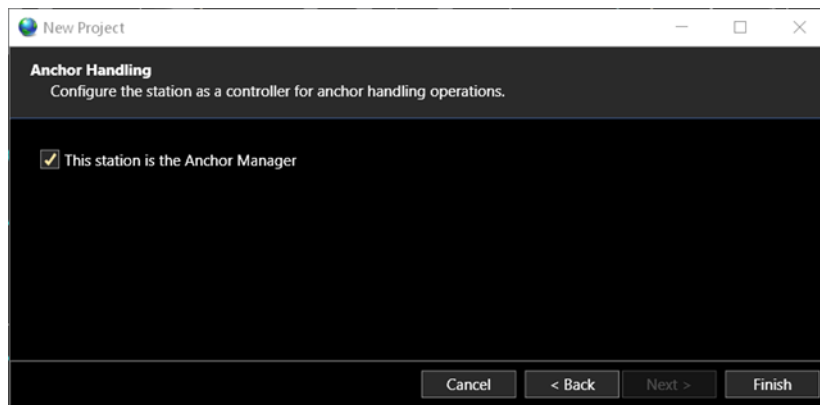

FIGURE 1 NEW PROJECT – ANCHOR HANDLING PAGE
- c. The Anchor module adds a page enabling the user to designate if **This station is the Anchor Manager** or not (see Figure 1), if the station is to be the Anchor Manager check this box